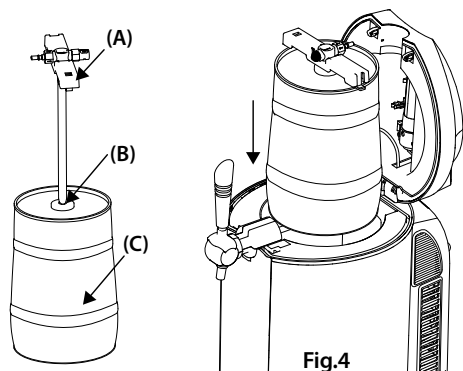

Fig.4
2. Place the pointed end of the spike (A) on the sealing ring (B) located in the centre of the keg's top. You may need to remove the closure or replace the seal (see the "Beer keg seals" section).
3. Hold the spike vertically and quickly push it into the keg (C). You will hear a noise which signals that the spike has clicked into place on the keg's top.
4. Release the locking mechanism on the cover to open the beer dispensing unit and place the correctly assembled keg in the cooling chamber (Fig. 4).